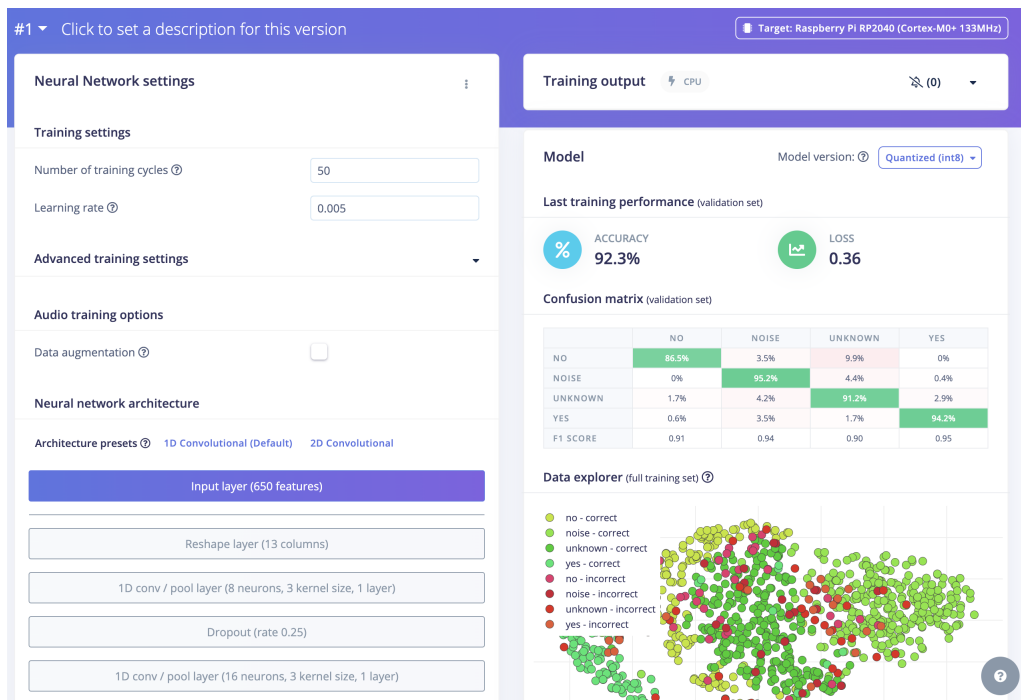

Figure 9.4: The fully trained model should result in something like this. Note the Target.
23. After training, the page should look like Figure 9.4